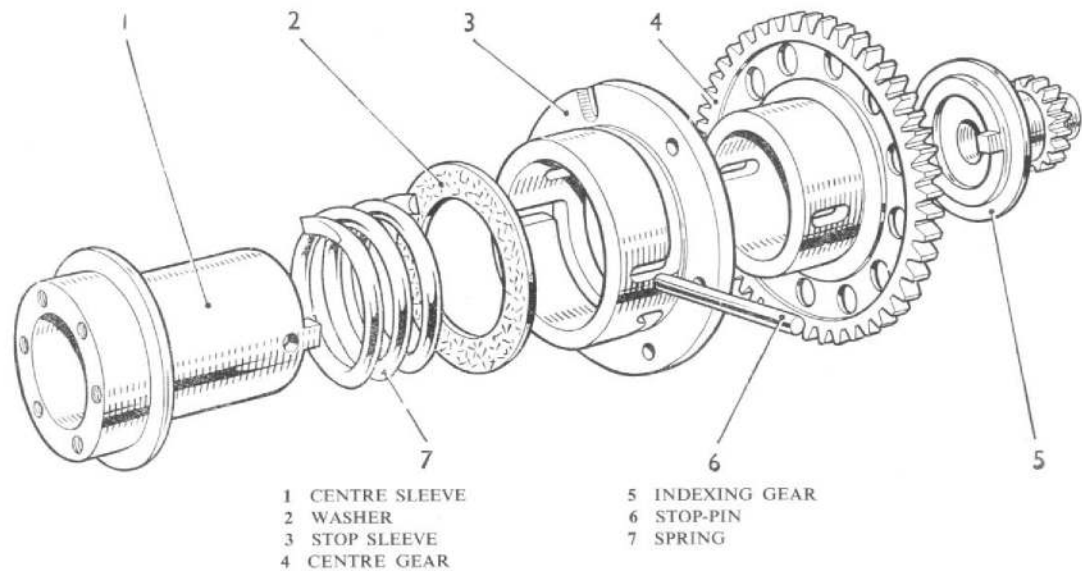

Fig. 11. Exploded view of centre gear and stop assembly
30. This assembly is dismantled by removing the stop-pin (6, fig. 11). To do this, position the assembly on a bench with the centre gear at the bottom and apply pressure to the centre sleeve to overcome the spring pressure. The pin may now be pulled out after which the assembly can be separated into its component parts.